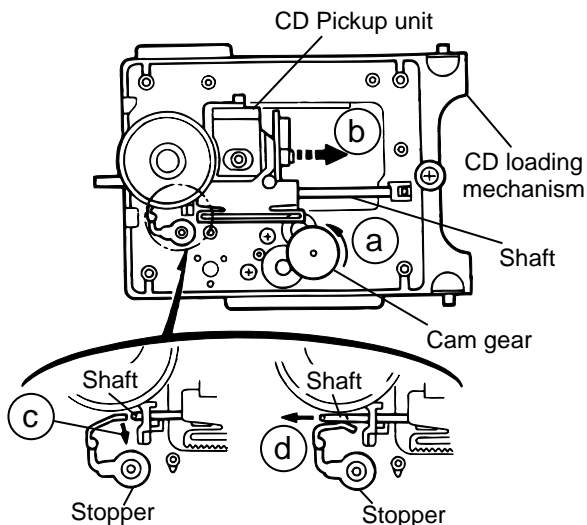

Fig.13
**Removing the CD pick unit (See Fig.13)**